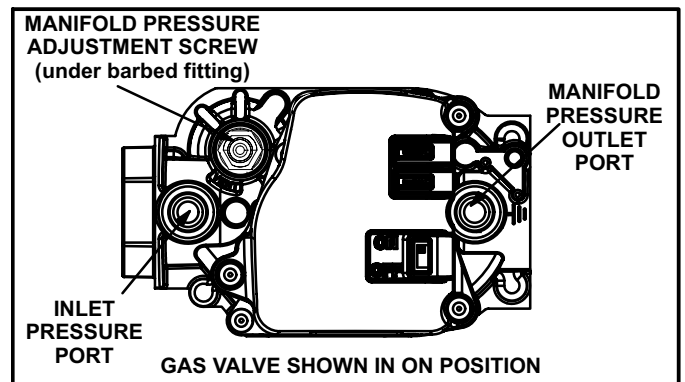

FIGURE 50
Gas Valve Operation (Figure 50)
- 6 - Move gas valve switch to **OFF**. See figure 50.
- 8 - Move gas valve switch to **ON**. See figure 50.
When testing supply gas pressure, use the 1/8" N.P.T. plugged tap or pressure post located on the gas valve to facilitate test gauge connection. See figure 50. Check gas line pressure with unit firing at maximum rate. Low pressure may result in erratic operation or underfire. High pressure can result in permanent damage to gas valve or overfire.